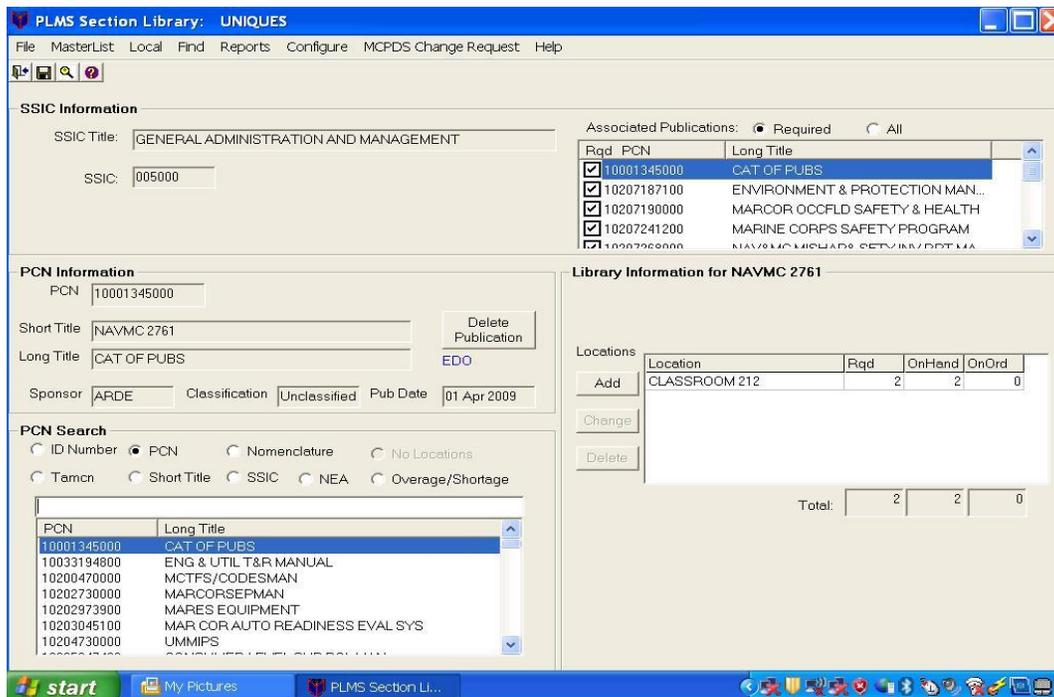

Figure 2: PLMS Main Menu
b. Sub-Menu for Edit Data. The first option on the PLMS Main Menu is for "File". This option allows you to save PLMS, Backup PLMS to CD or PSD, Delete section library and Exit PLMS. PLMS Main Menu is Figure 2: